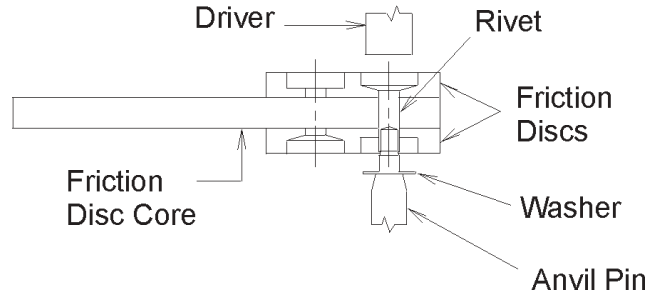
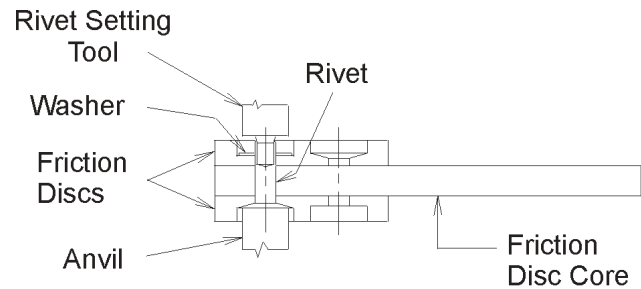

Fig. 12
Fig. 13
- 4.3.4.4 Insert a rivet through any hole and set using a washer on the clinched end of the rivet. Be sure to note the type of counterbored hole to determine the position of the rivet head. See Figures 12 and 13. Figure 12 shows machine-setting and Figure 13 shows setting the rivet manually. When setting manually, use an arbor press and keep the setting tool square to avoid splitting the rivet.